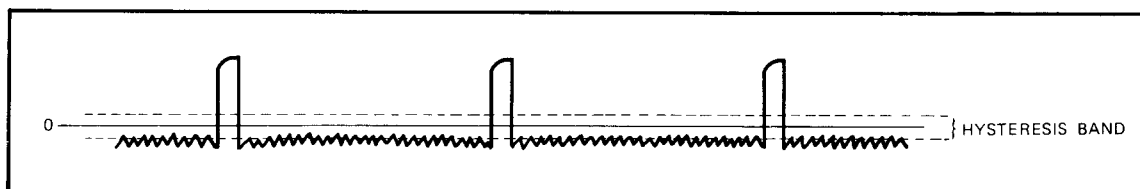
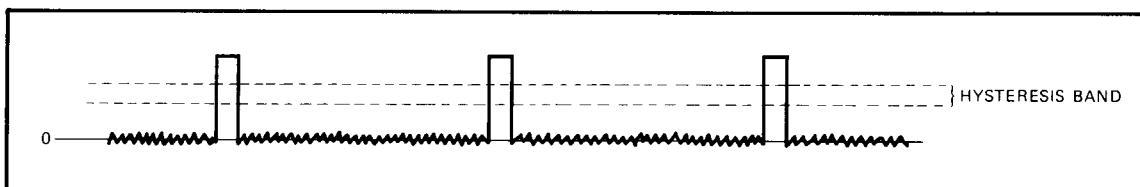

Figure 3-10. AC Coupled Measurements
Figure 3-11. DC Coupled Measurements
2. For asymmetrical waveforms (pulse trains, TTL, ECL signals, ramps, etc.) use a combination of DC coupling, Trigger Level, and fixed attenuator. AC coupling these types of signals tends to distort them slightly, due to the charging of the capacitor. More important, the position of the signal on the zero preset trigger level is determined by the average DC level of the input. Depending on the pulse width and duty cycle, this DC average may be low enough to allow the base line noise to trigger the counter, producing extra counts (see Figure 3-10.) DC coupling fixes the DC level of the input signal, which allows the adjustable Trigger Level to be positioned at the optimum point. Set the Trigger Level control to the approximate center of the triggering range indicated by the trigger light (see Figure 3-11).